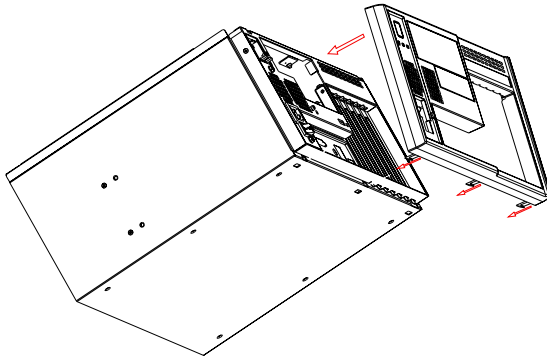

Figure 3.8: Replacing the front bezel
8. Replace the front bezel. Align the three hooks on the bottom of the chassis first, and then tip the bezel into place on top. (see *Figure 3.8*) Gently push the top hooks inside to reattach the bezel to chassis.